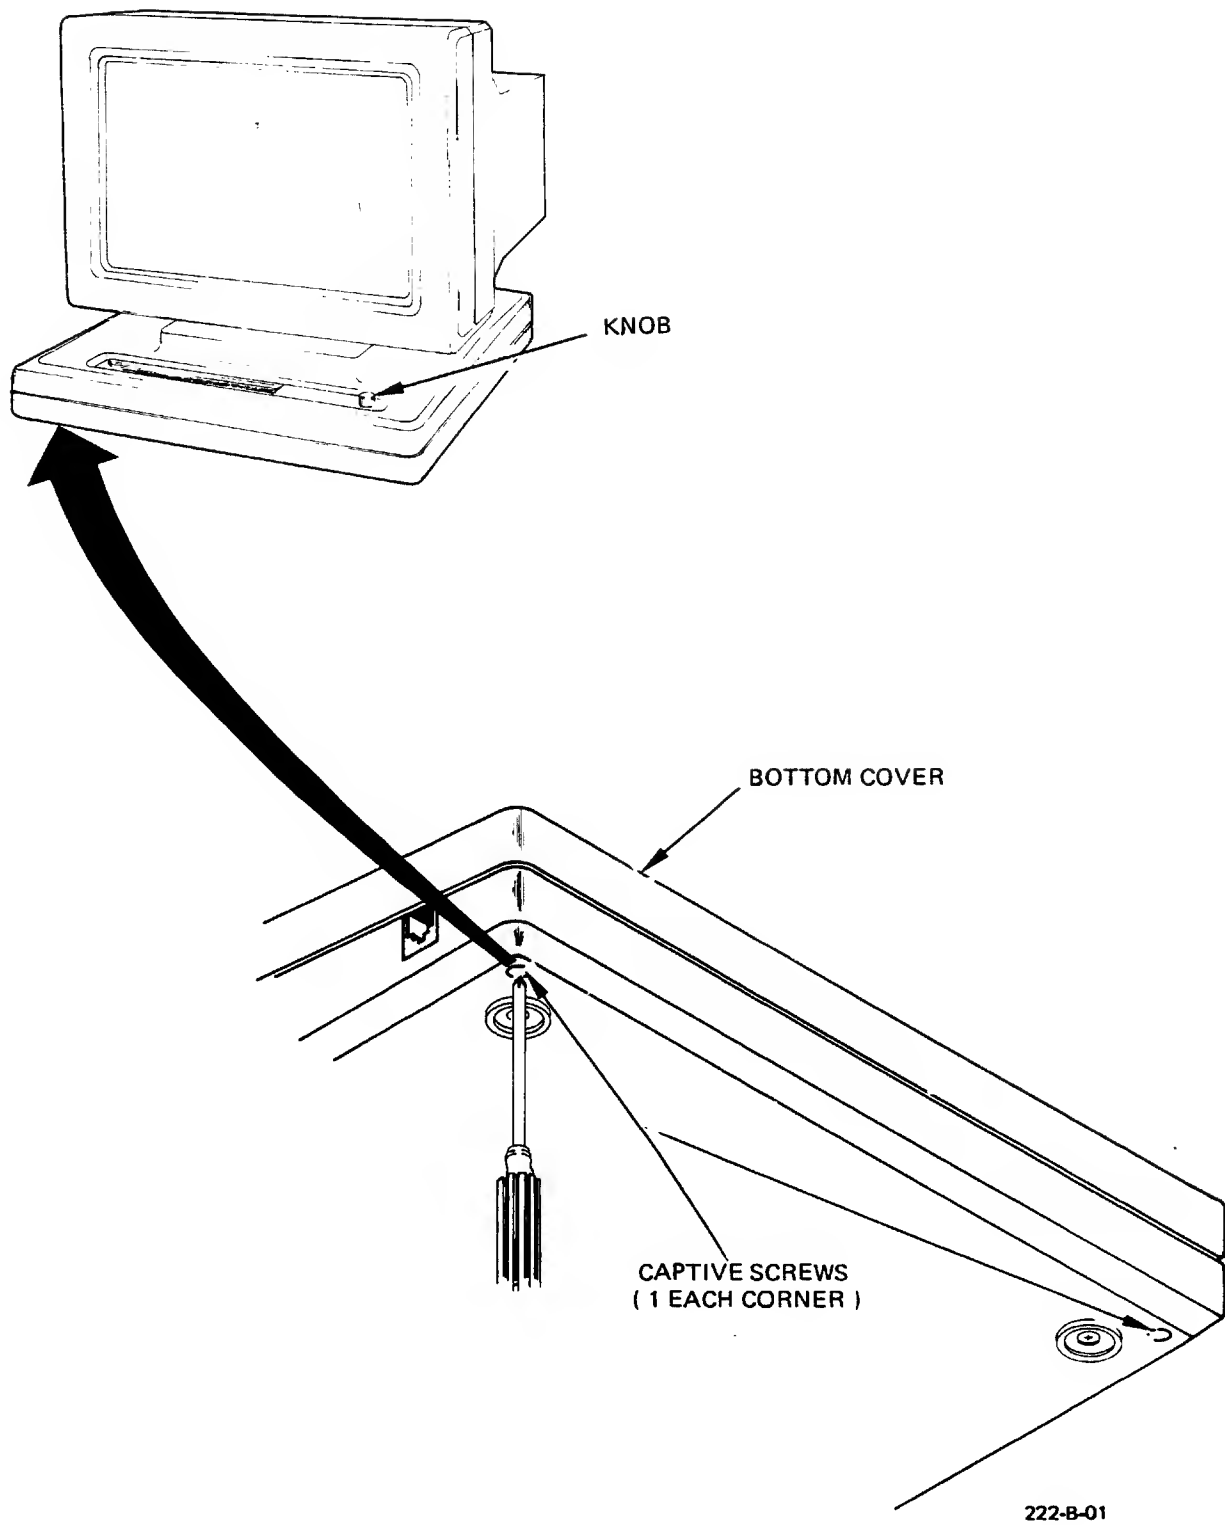

Figure 2-5. Monitor Bottom Cover Removal and Replacement
To remove the bottom cover for access to the lower monitor area (logic PCB and power supply), proceed as follows. Refer to Figure 2-5.
2. Position the bottom cover on the monitor and tighten the four recessed screws to secure it in place. Refer to Figure 2-5.